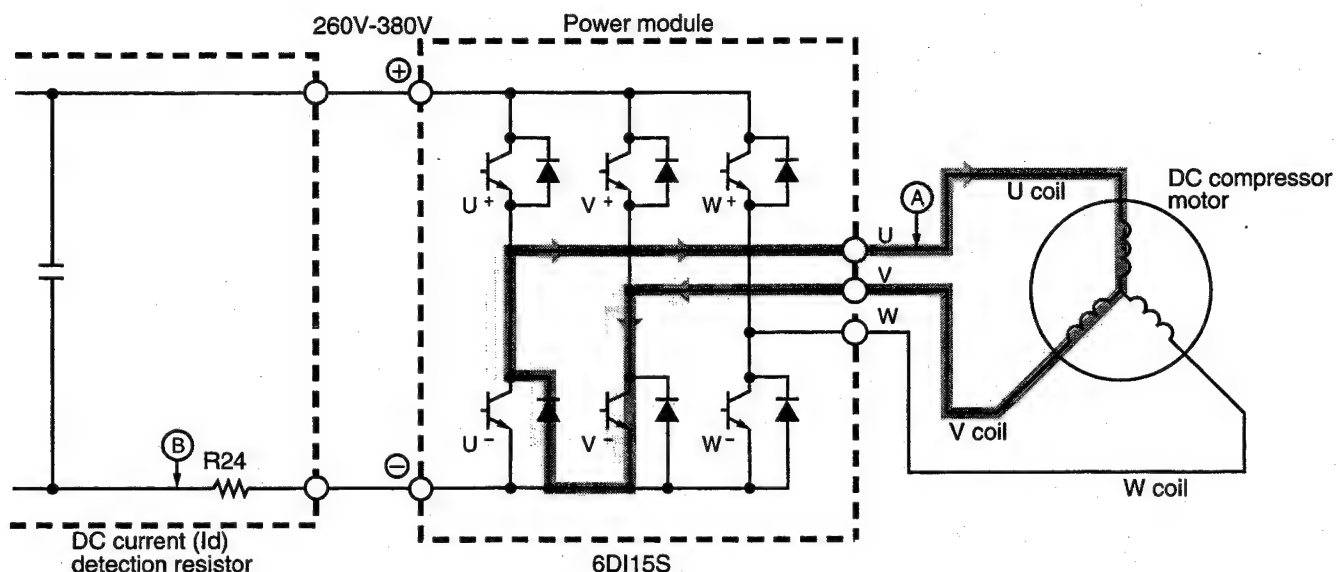

Fig. 3-4 Power module circuit (U+ is ON, V- is ON)
When  $U^+$  transistor is OFF: (by inductance of motor coil) U coil  $\rightarrow$  V coil  $\rightarrow$   $V^-$  transistor  $\rightarrow$  Return diode  $\rightarrow$  Point (A) (Fig. 3-4)